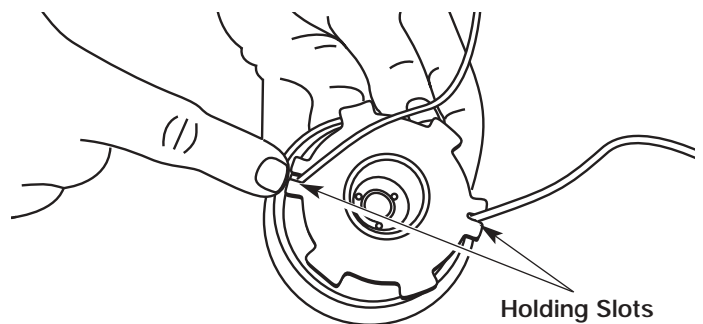

FIGURE 31
12. Insert the ends of the line into the two holding slots, Figure 31.